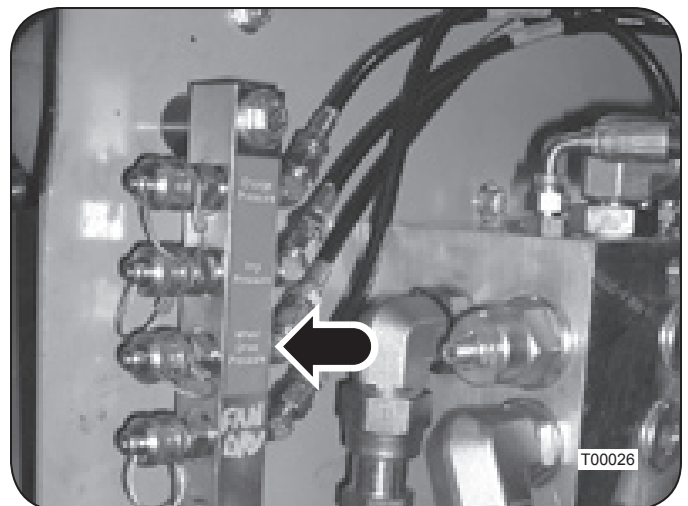

Figure 8: Wheel Drive Pump Pressure Gauge Port Tap
3. Connect the 10,000 psi pressure gauge, with the quick-couple adapter attached, to the gauge port tap provided on the centralized pressure check manifold. See Figure 8.